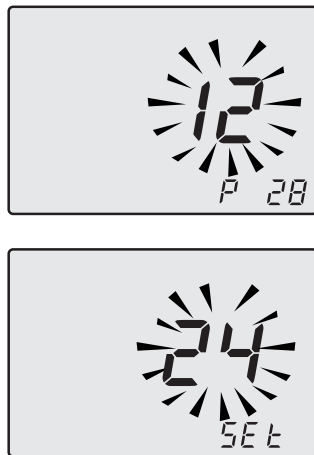

Fig. 9.4
- Use key 9 or 10 to modify the value of parameter 28 from **00** months to **48** months. The value **99**, which disables the maintenance request, is permitted. The writing **P28 - SET** alternates on the display (Fig. 9.4).